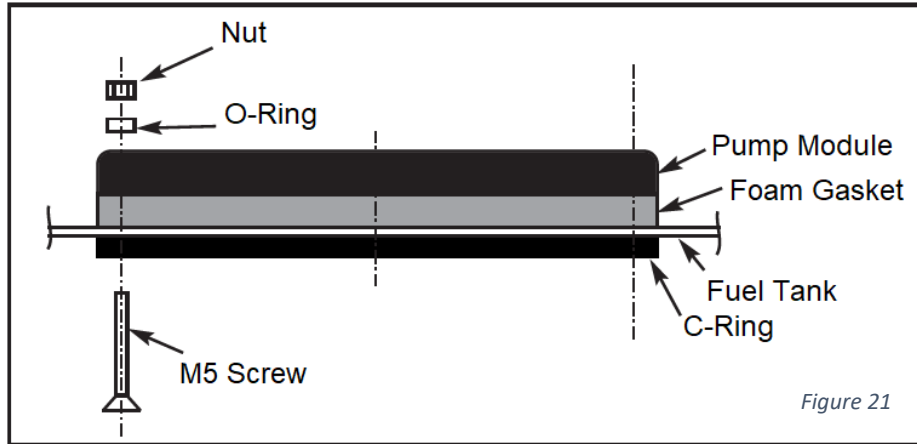

Figure 21
5. Place the Foam Gasket (Item 2) over the (6) holes in the Tanks Inc. fuel tank. Align the holes.
6. Insert Pump Assembly into tank. Align holes in the top cap of the main assembly with the holes in the gasket and tank. Carefully install O-Rings into the (6) machine screws (Item 7) and thread them through the main assembly, gasket, and into the threaded holes in the tank. Tighten securely using a crisscross pattern to assure they are tightened evenly. See Figure 21 on page 9 on proper assembly of parts.